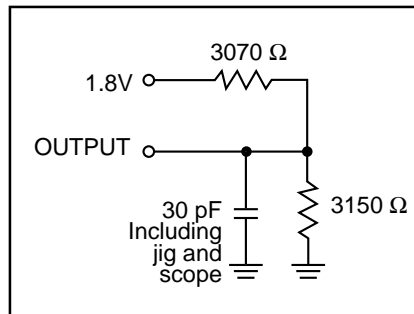

Figure 2.
2. Tested with the load in Figure 2. Transition is measured  $\pm 500$ mV from steady-state voltage. Not 100% tested.
3. Tested with the load in Figure 2. Transition is measured  $\pm 500$  mV from steady-state voltage.